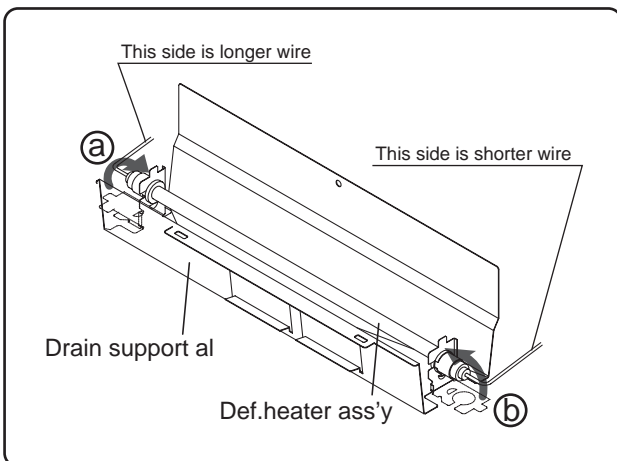

Fig. A-24
(2)-6. Bend (a) and (b) of Drain support al to right angle (90°) to set Def. heater ass'y. (Fig. A-24)